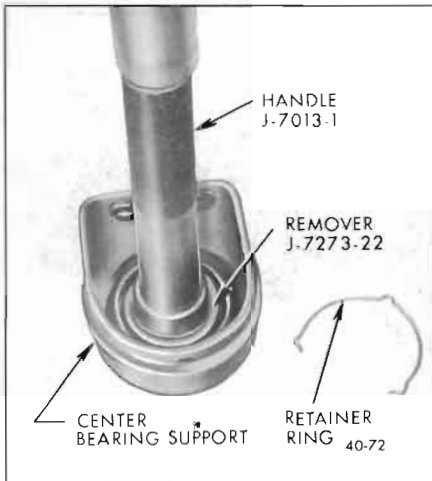

Figure 40-72—Removing Center Bearing From Support
b. On 49000, remove retainer rings from bearing assembly and remove center bearing with assistance of Remover J-7273-22 and Handle J-7013-1. See Figure 40-72.